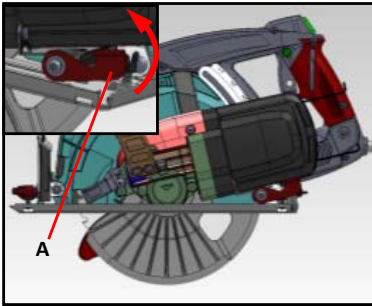

Fig.15
1. Pull up & loosen the Lock Lever (A) first Fig.15